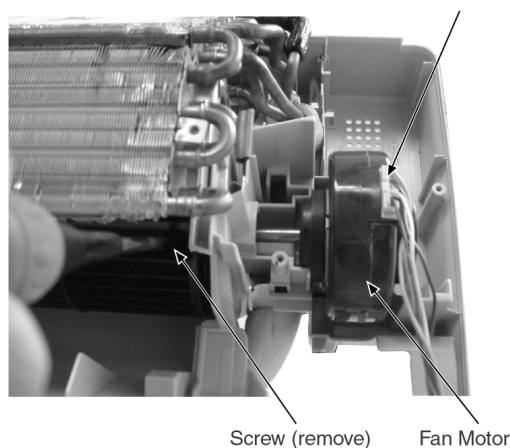

Fig. 7
- Remove the screw at the Cross Flow Fan. (Fig. 7)
- REMINDER - To reinstall the Fan Motor, adjust the connector of the Fan Motor as shown in the Fig. 7.